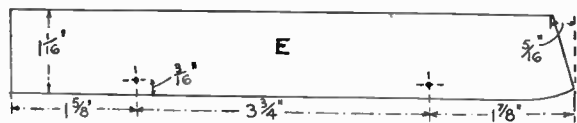

Fig. 4
Next, draw out the back of the van, piece (C). This is a plain oblong 3½ ins. long by 2½ ins. wide of ½ in. wood. Cut a window in this piece about 1½ ins. wide by 1 in. high. Glue and nail the pieces to the floor and to the lower edges of the sides (B), as seen in Figs. 1 and 2. Now, to stiffen the sides (B) and to form a backing to the wheels, cut and glue in the two pieces (E), a full-size pattern for which may be outlined and cut from the diagram Fig. 4. Note where the holes will be bored for the screws of the wheels.